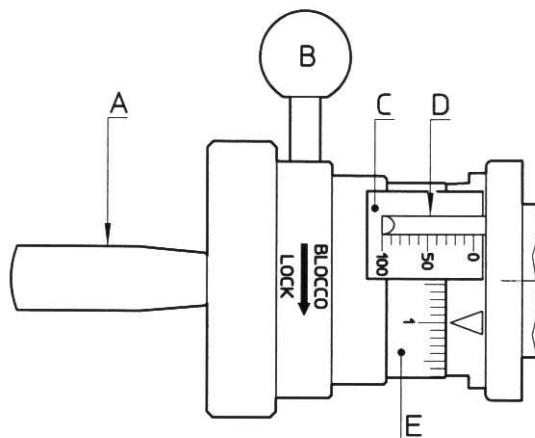

Fig. 7
To adjust (see Fig. 7), slide back the lock knob (B) and turn the handle (A). The adjusted position is shown on the graduated plate (C) by the adjustment pointer (D), while adjustments in between the graduations on the plate (C) are read from the vernier (E). The graduations are given as percentages (%) of the piston's total stroke, and one turn of the handle (A) corresponds to 10% of the stroke: ten turns of the knob provide adjustment from 0% to 100%. Once the adjustment has been made, slide in the lock knob (B).